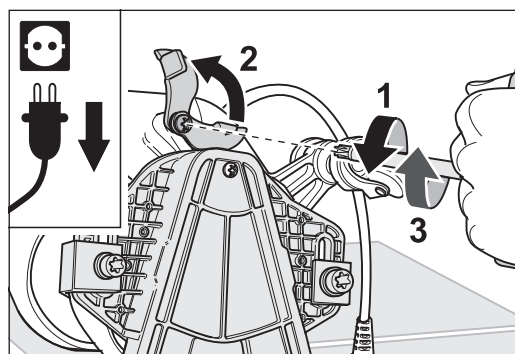

Fig. 38 Loosen the screw (1), turn the belt tightening plate away from the attachment (2) and retighten the screw (3).
- 3** Undo the screw of the belt tightening plate with the universal spanner (fig. 38, 1).
- 4** Turn the belt tightening plate away from the attachment (fig. 38, 2). and retighten the screw of the belt tightening plate (fig. 38, 3).